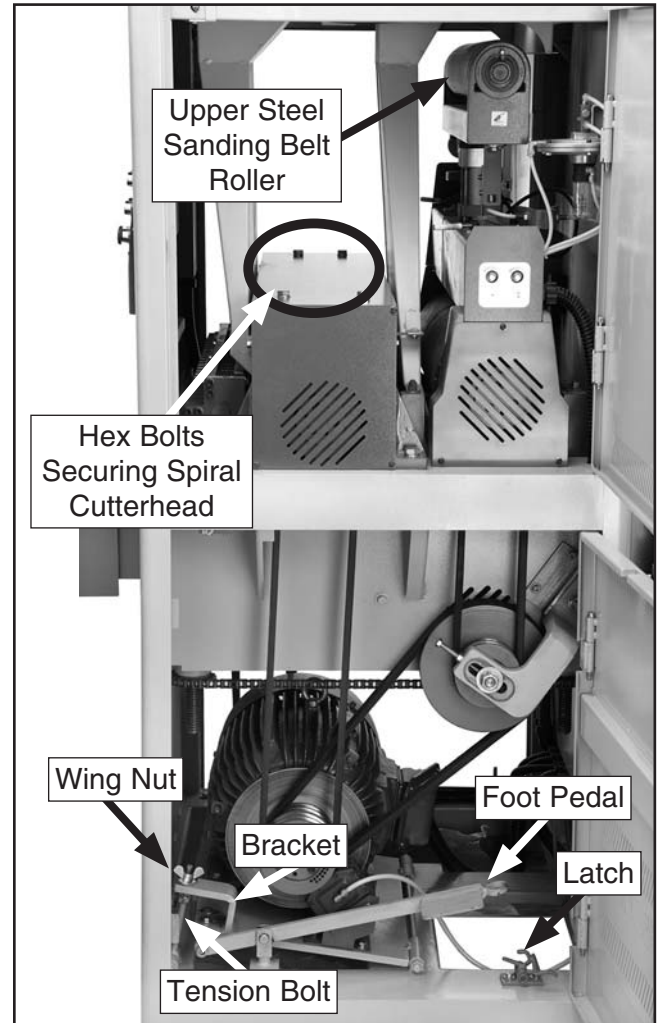

Figure 10. Access to cleaning locations.
To access the steel sanding belt roller (**Figure 10**), unlock the right or left access doors, and clean as needed.
1. Open the lower right access door, loosen the large wing nut on the tension bolt (**Figure 10** on **Page 15**) then move the nut, bolt, and lock nut out of the way.
2. Push the foot pedal down to loosen the V-belts, then lock the foot pedal in place with the latch (see **Figure 10**).
4. Using a 19mm wrench or socket, remove the four hex bolts and lock washers that secure the spiral cutterhead assembly (**Figure 10**), grip the handle on the left side, then slide the cutterhead assembly all the way out (**Figure 11**).